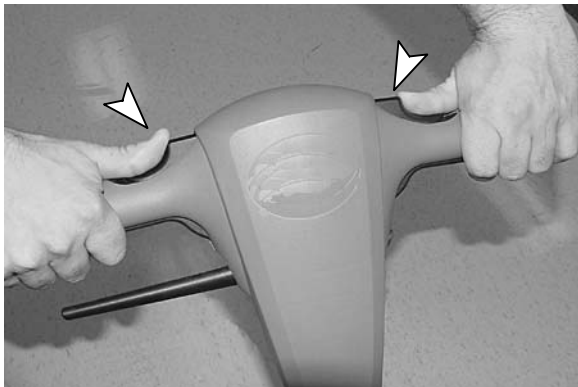

FIG. 7
- To start machine, depress the safety lock buttons, located on top of the handle, then pull the On/Off levers. Release the safety lock buttons once the machine starts (Figure 7).